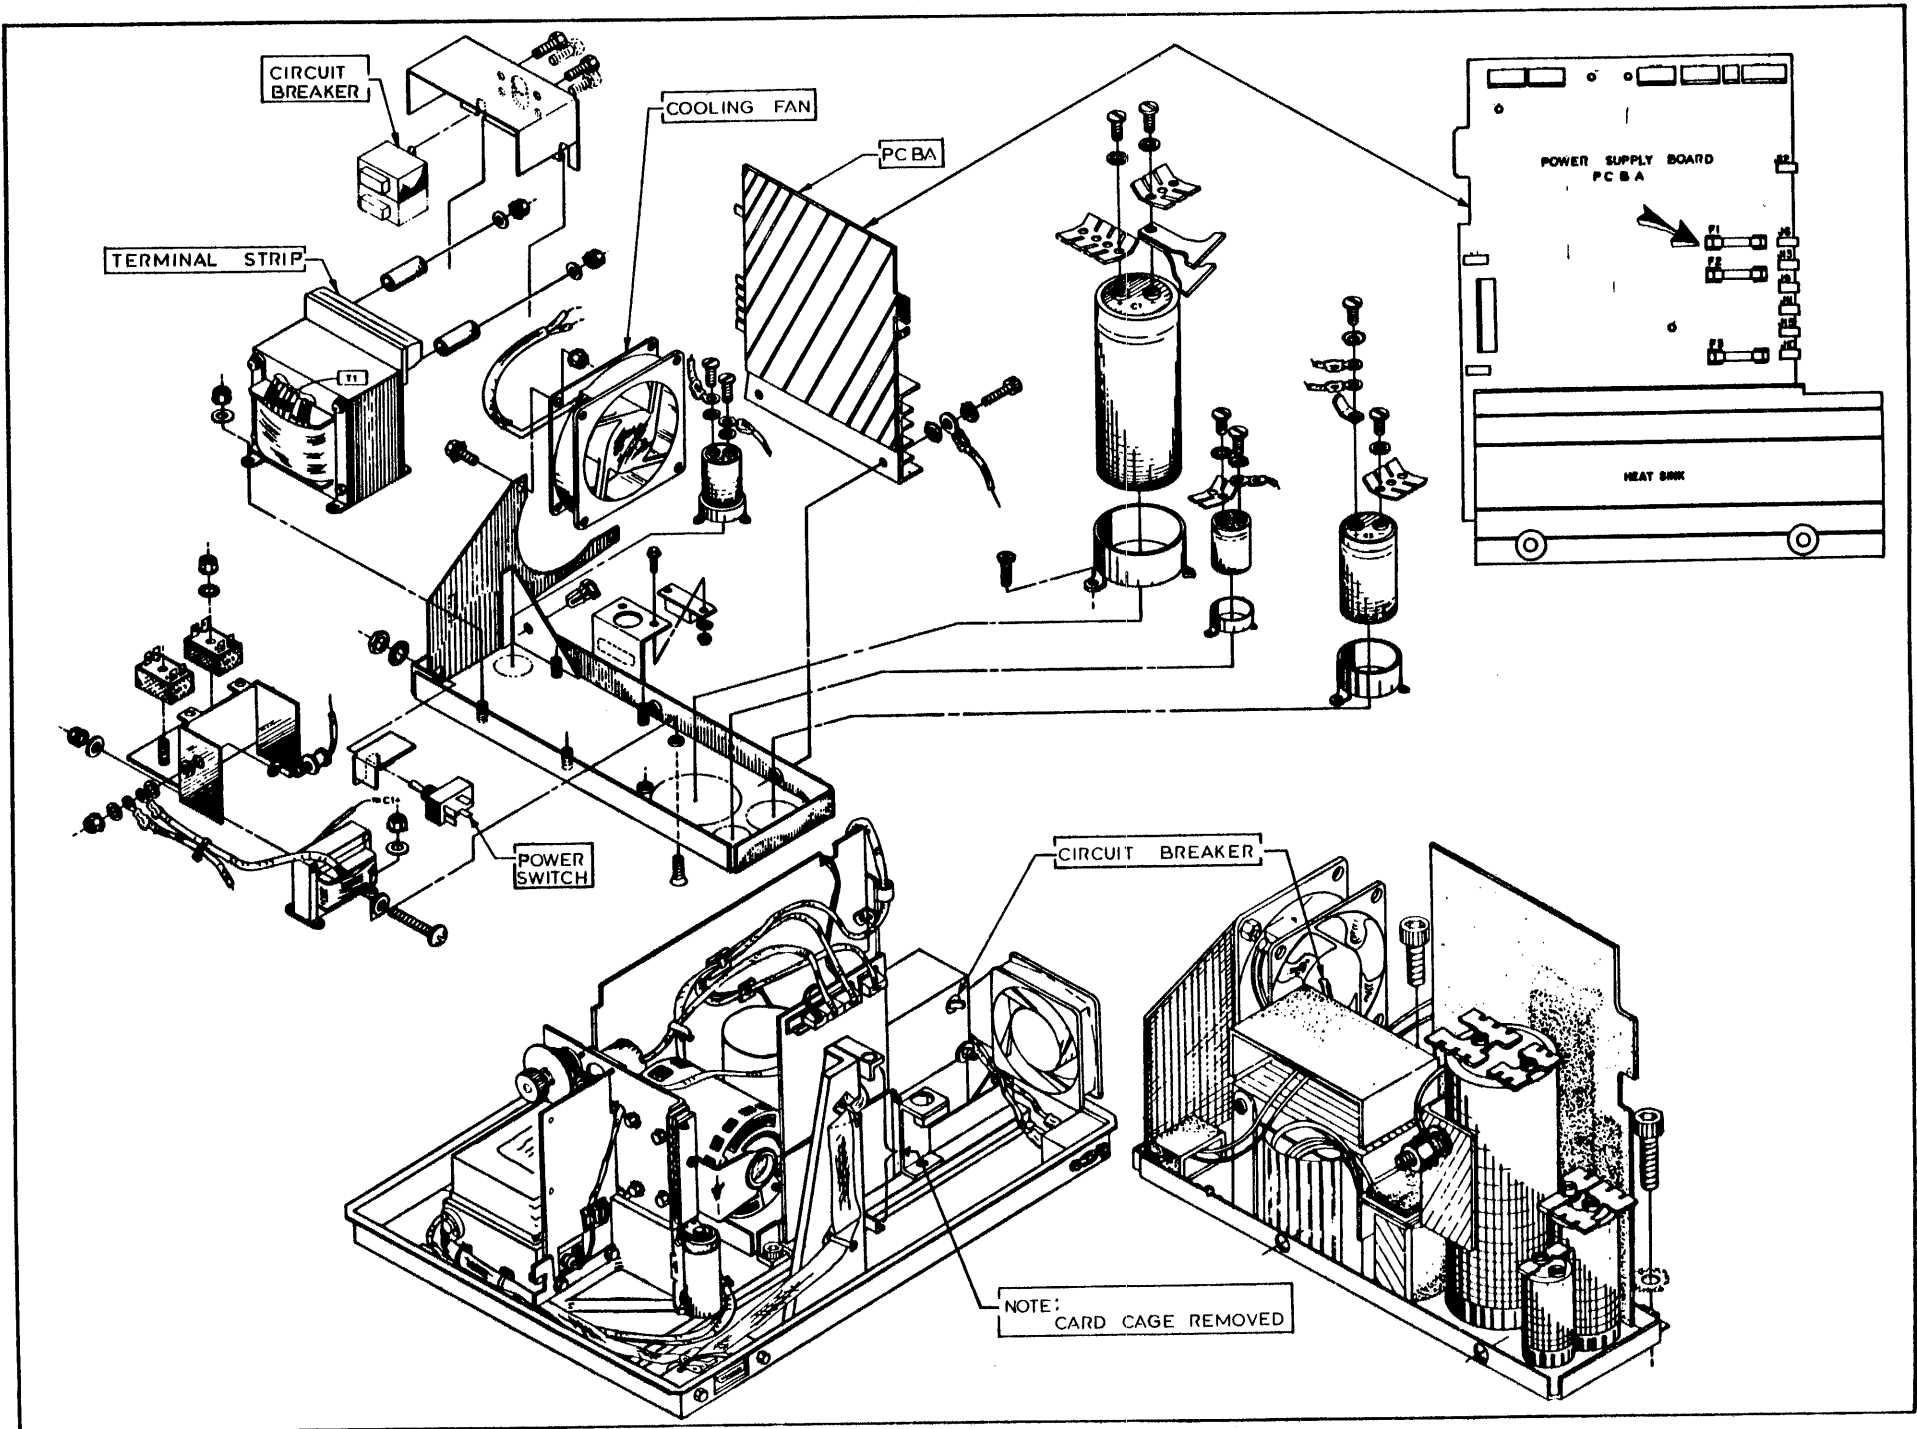

Figure 109 The Power Supply Assembly
The Power Supply circuits include components contained directly on the chassis of the Power Supply Assembly (Figure 109), components contained on the Power Supply PCBA, the cooling fan, and the AC power switch.
Fuses for the DC power supplies are held in clips on the lower part of the Power Supply PCBA and are accessible when the card cage has been swung open. Fuses are fast-blow types (Figure 109, top to bottom) as follows:
- e. Loosen the screws at terminals TB1 and TB5 (numbered from the left-hand end) and remove the fan motor wires from the terminals (Figure 109).